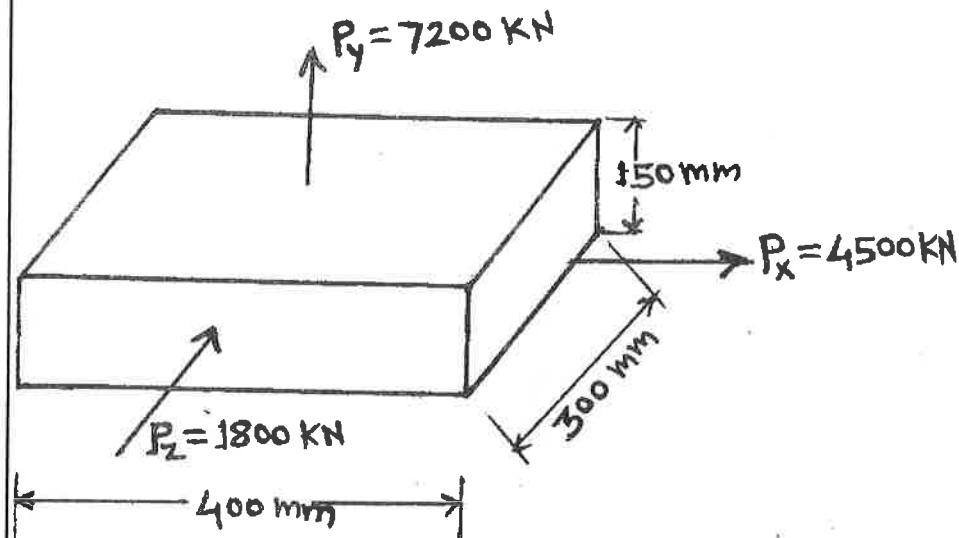

Fig No. 4
- a) A rectangular block loaded is shown in Figure No. 4. Find linear strains in X, Y and Z directions. Also find change in volume of the block. Take $E = 200 \text{ GPa}$ and Poisson's ratio. $\mu = 0.25$.